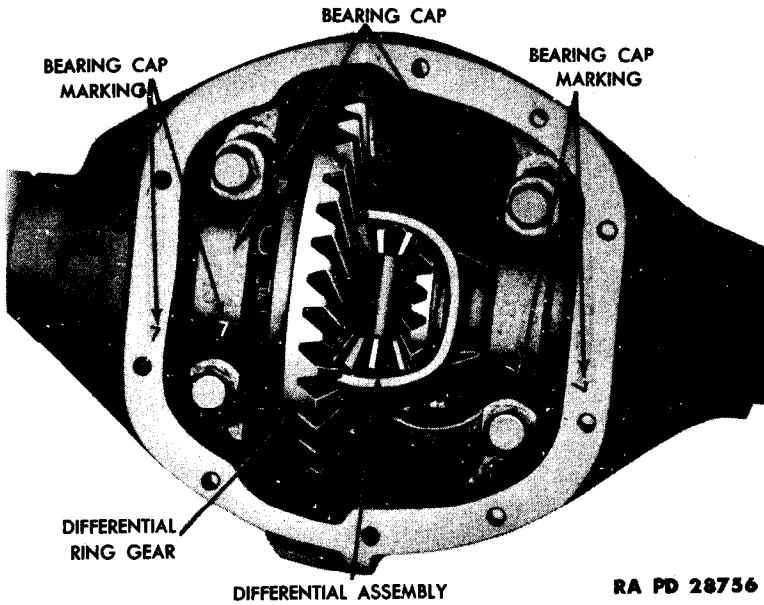

Figure 47 — Differential Assembly
e. **Remove Differential (fig. 47).** Remove the ten cap screws that secure the differential cover to the differential housing. Remove the differential cover and gasket. Remove the two cap screws from the bearing cap at each end of the differential gears and remove the caps. Remove the differential gear assembly from the housing, using a pry bar, if necessary. Reinstall the bearing caps in the housing, noting the markings (fig. 47) to assure their being installed in their correct location.
(2) **REMOVE RING GEAR FROM CASE** (fig. 47). Bend the ears of the lock plates off the cap screws. Remove the cap screws that secure the ring gear to the case, and remove the ring gear.